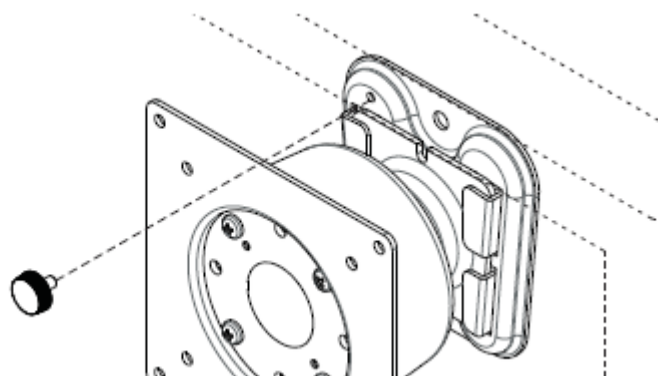

Figure 2.23 Secure the Panel PC
8. Secure the panel PC by fastening the retention screw of the wall-mounting bracket. (Figure 2.23)